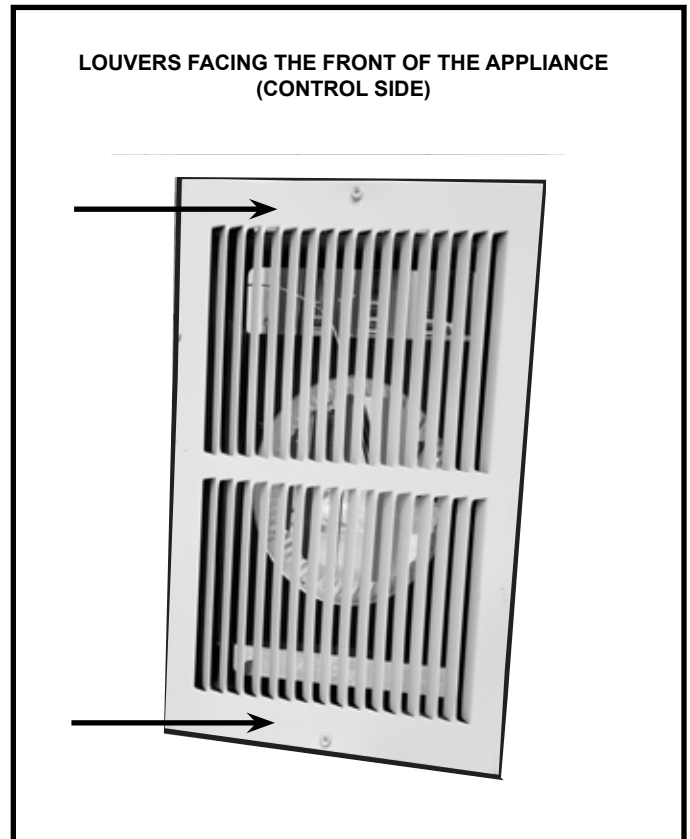

Figure 7.12 Correct Register Orientation
3. Install register cover with louvers facing the front of the fireplace (control side) using provided screws. See Figure 7.12.